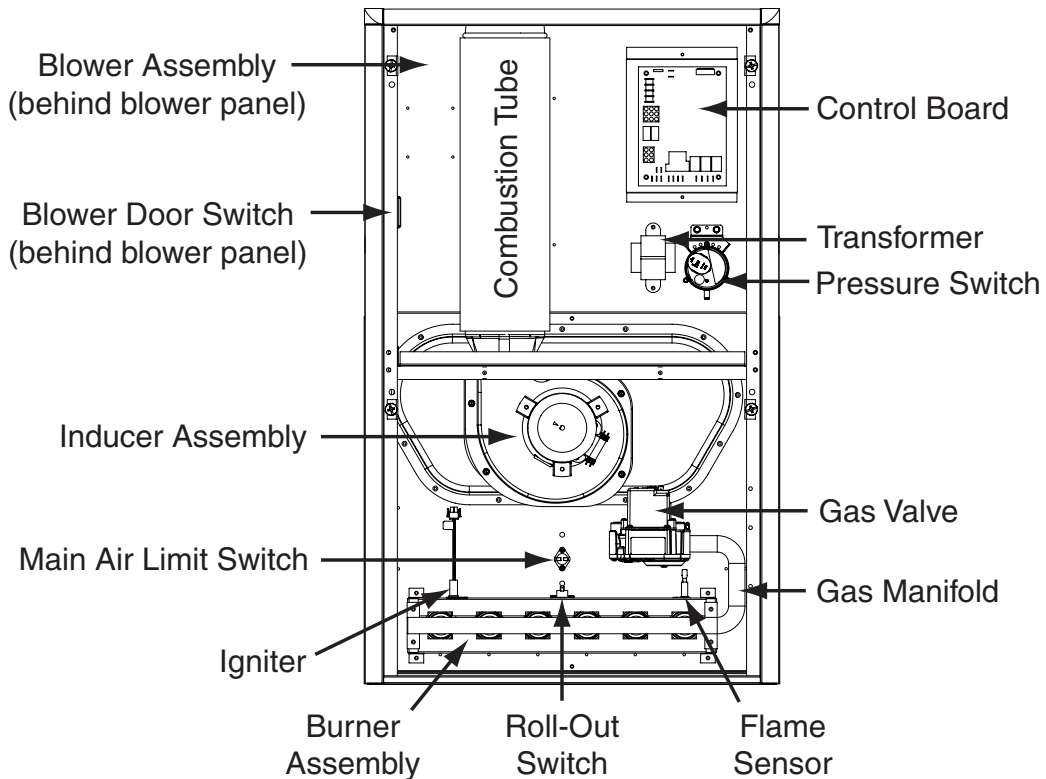

Figure 20. Component Locations
- If the inducer blower is operating and items above have been verified, check the blower limit switch and reset if necessary. See Figure 20, \(page 32\) for component location.
- If the furnace still doesn't operate, check the flame roll-out switch and reset if necessary. See Figure 20 for component location.
The descriptions below are various functional components that affect the operation and shutting down of this furnace. Some of these components and their locations are shown in Figure 20, \(page 32\). If any component of the furnace must be replaced, use only factory authorized replacement parts specified in the Replacement Parts List provided online.